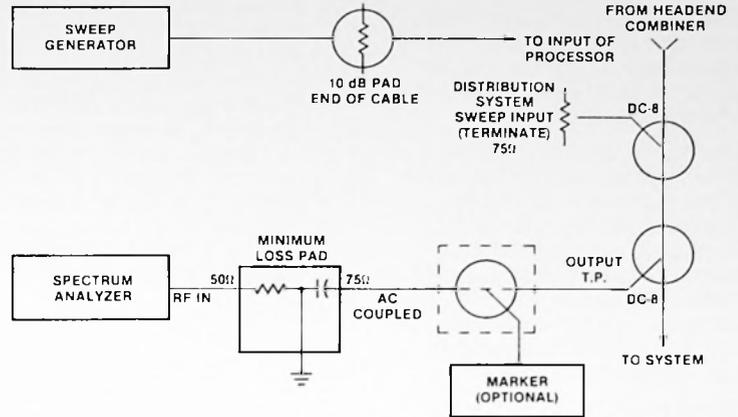

Figure 6-1. Equipment connection for headend frequency response measurements.
1. The headend output feed should include two test points, each developed by a directional coupler inserted in the directions indicated in figure 6-1. These couplers provide system access for the head-end tests. Set up the equipment as shown in the figure.
2. Connect the spectrum analyzer to the output test point through the Minimum Loss Pad (figure 6-1).